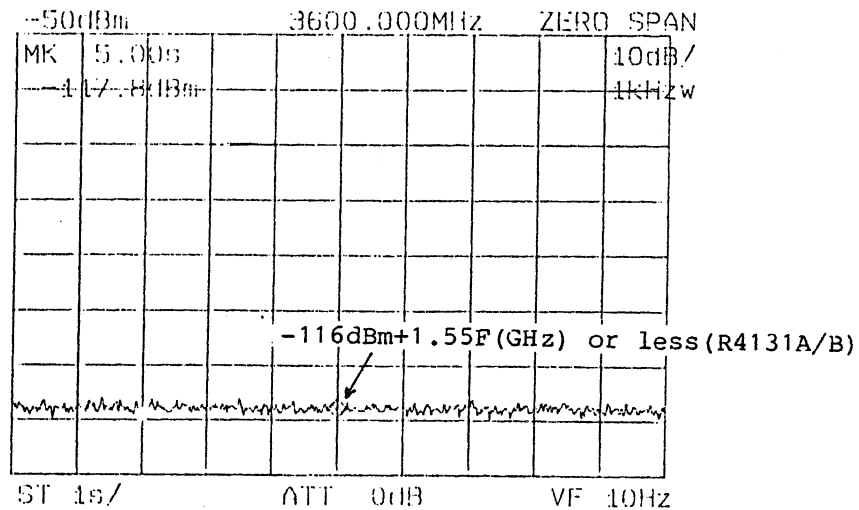

Figure 11-22 Average Noise Level Test
- ④ Set the video filter to 10 Hz. (See Figure 11-22) Check that the marker level reading is  $-116 \text{ dBm} + 1.55F \text{ (GHz)}$  or less (R4131A/B),  $-114 \text{ dBm} + 1.55F \text{ (GHz)}$  or less (R4131AN/BN),  $-110 \text{ dBm}$  or less (R4131C/D), and  $-108 \text{ dBm}$  or less (R4131CN/DN).